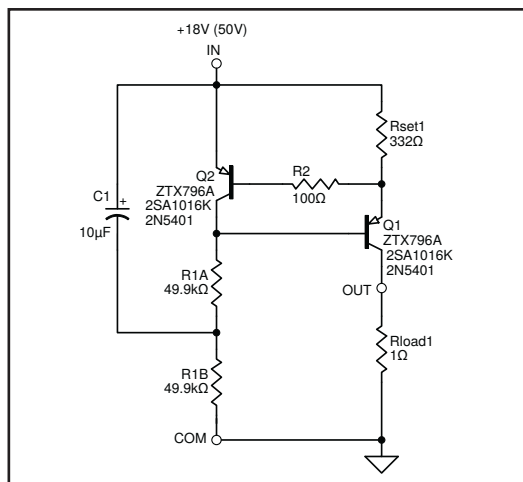

Figure 1: This one Vbe current source uses a bootstrapped capacitor C1. (Subcircuit Nodes IN, COM, OUT)
These articles have dealt with *three-terminal* (3T) type current source circuits (see **Figure 1**) which have IN, COM, and OUT terminals. The
These 2T series circuit principles allow a measured voltage across (3) to deduce the relative Z of an unknown (2), with Vac being fixed. This may be more clear by referring back to the original **Figure 1** test circuit.^[1] The basic functionality should also be evident from **Figure 3**, a 3T SPICE test circuit with a source of (1) Vac (superimposed on a 50V DC bias V1), (2) a test current source circuit U1, and (3) Rload1. A 2T circuit would be connected between IN and OUT, with no connection to COM.
Note that this data is for an actual real 3T circuit, that of **Figure 1** (which is *not* 2T), and there is a dramatic difference between the case of C1 being present, or not. What is going on here, and why?
Before answering this, it should be acknowledged that the above measurement techniques have been challenged, specifically for such 1VbeCS types.^[4] The stated objection is that a measured power supply rejection (PSRR) of X dB cannot be used to infer equivalent current source output impedance for a circuit such as **Figure 1**. The next few graphics will shed some very useful light on this point.
Figure 3: A SPICE simulation circuit with 1 VAC stimulus is applied to dual Figure 1 current sources, supply side (U1) and load side (U2), with ZTX796A transistors in a one Vbe ~5 mA setup.
This scheme is shown in **Figure 1** (same as the circuit in [3]), in the form of a "Tee" circuit. C1 is a bootstrap coupling capacitor, and the total R1a plus R1b $\approx 100 \text{ k}\Omega$ value provides a Q2 current just like the (value-modified) original circuit (i.e., $160 \mu\text{A}$) when operated on 18V. As the **Figure 2** performance plots indicate, this circuit really does have truly excellent line rejection, when using the $10 \mu\text{F}$ C1. The rejection at low frequencies is increased 35 dB or more, to a range of $\approx 140 \text{ dB}$, actually limited by the test setup. Above 100 kHz, more than 110 dB of rejection is available. This improved performance is had for one additional R and C, vis-à-vis the original version.
Figure 3 is an LTSpice test circuit which exercises the 1VbeCS of **Figure 1**, using the ZTX796A transistors with the Tee circuit values shown, at a ~ 5 mA current, on a 50 V supply. The SPICE circuit uses test conditions shown in **Sidebar 1**. The simulations use U1 and U2 as a common subcircuit, noted in **Sidebar 2** (see References).
What we can now learn from all of this is just what is behind the conditional nature of the circuit behavior with supply variations. With the Tee circuit active in this 1VbeCS, the performance is superior, without it, things are much worse. But to the point of the [4] criticism, as used within **Figure 1**, *the Tee circuit enables the measurement of both superior PSRR and high output impedance*. That is, the load-side measured Z is virtually indistinguishable from supply-side measured Z. This is because the use of Tee circuit makes this 1VbeCS behave as if it were a 2T source. The bottom line? *We've observed a lot here, just by watching!*